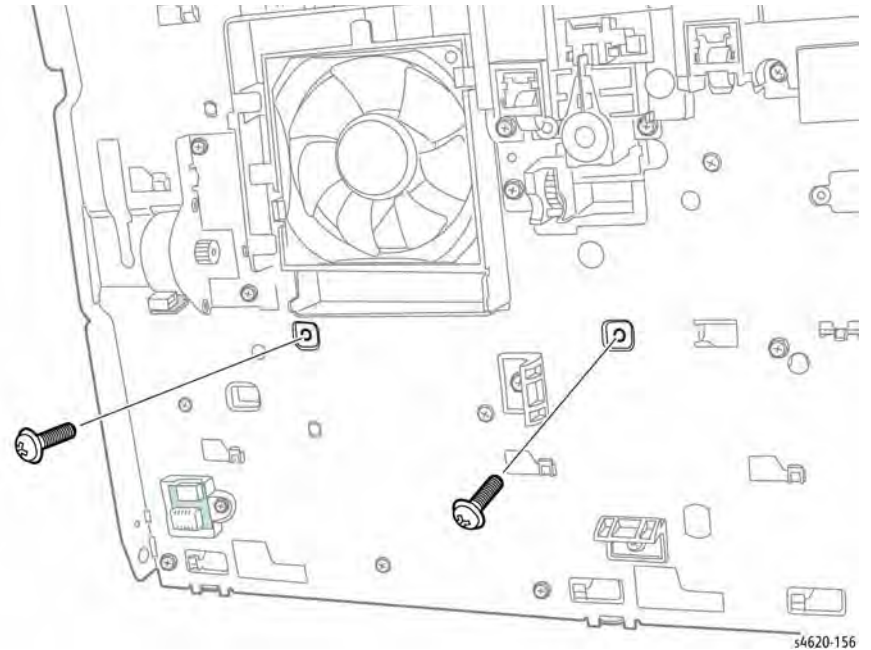

Figure 4 Remove the left side power supply tray screws
13. Remove 2 screws (metal) that secure the left side of the power supply tray to the chassis, Figure 4.